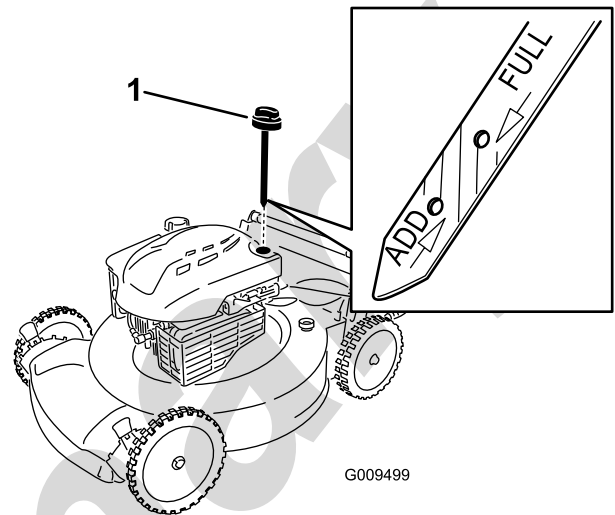

Figure 21
6. Remove the dipstick from the oil-fill tube (Figure 21).